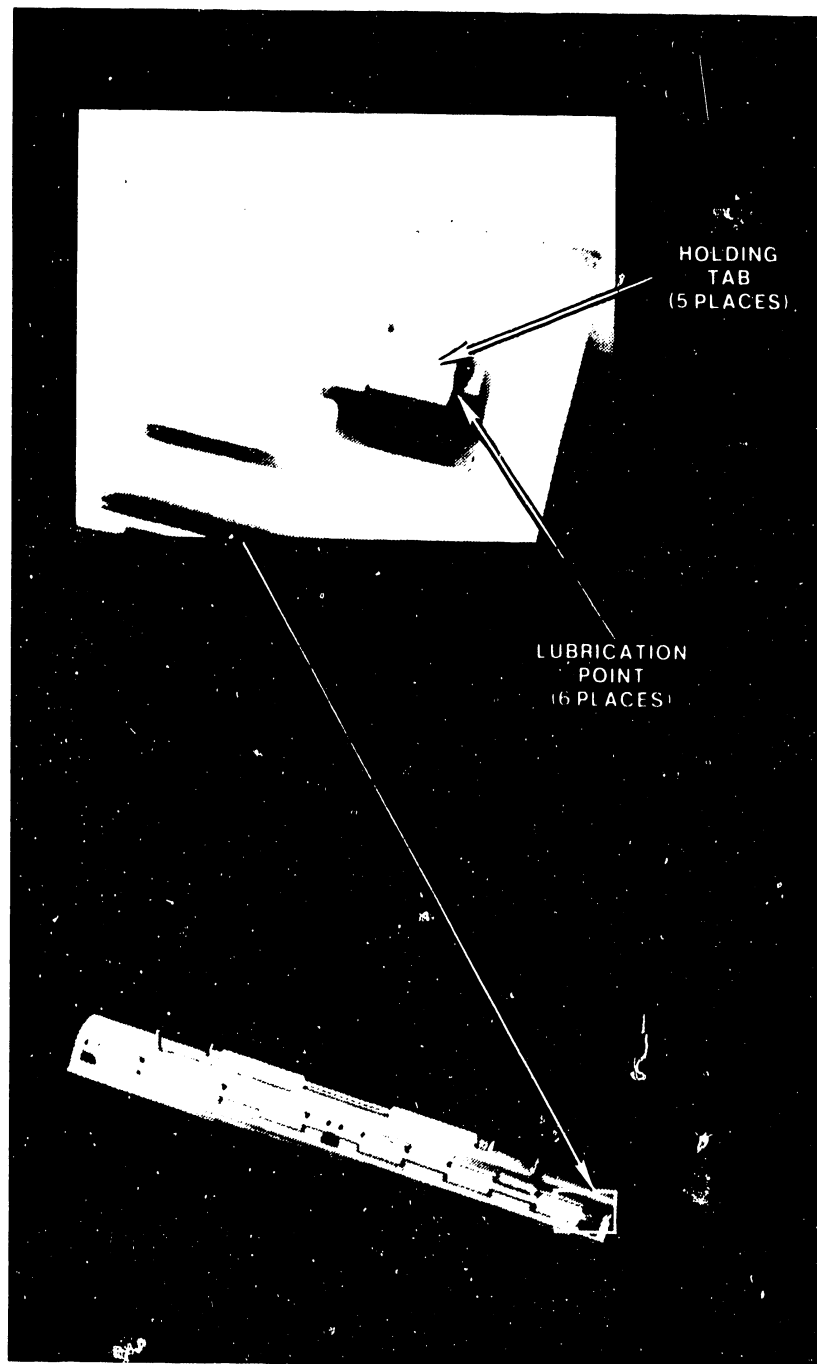

FIGURE 6 PRESSURE ROLLER ADJUSTMENT
- a. Verify that all six paper guide pressure rollers are against the platen with the paper release lever in operating (rear) position. If necessary, bend the holding tabs (see Figure 6) at the ends of the roller shafts for proper adjustment. Pressure between platen and rear (entrance) pressure rollers should be sufficient to prevent the forcing of a sheet of 20-pound bond paper between rollers and platen. Check that the pressure is the same for the middle and both end rollers by inserting and pulling a narrow piece of paper between the individual rollers and the platen.